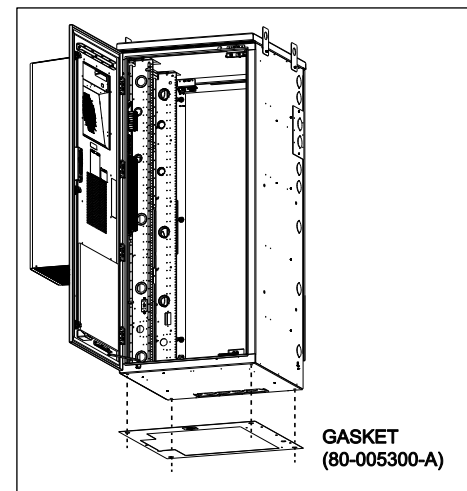

Figure 5 **Gasket Installation**
3. Install the gasket by positioning it on the pad so that it is underneath the bottom of the CUBE when the cabinet is installed. Line up the gasket so that the cutouts are in proper position around the conduit opening and the bolt holes as shown in Figure 5.